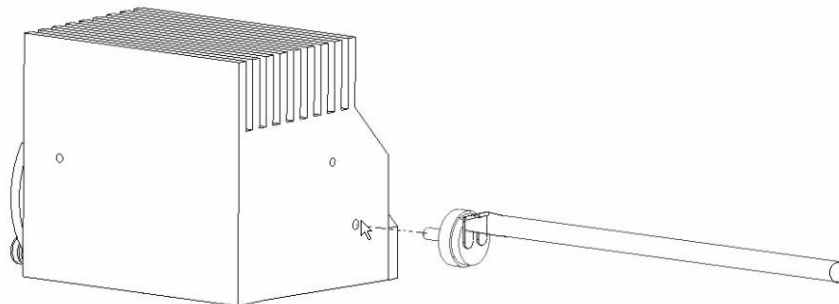

Figure 3 - Thermal Snap Switch and Cable Assy.
5. Unthread the thermal snap switch counter-clockwise from the rear of the lamp housing assembly (Figure 3). Discard the defective thermal snap switch and cable assembly.